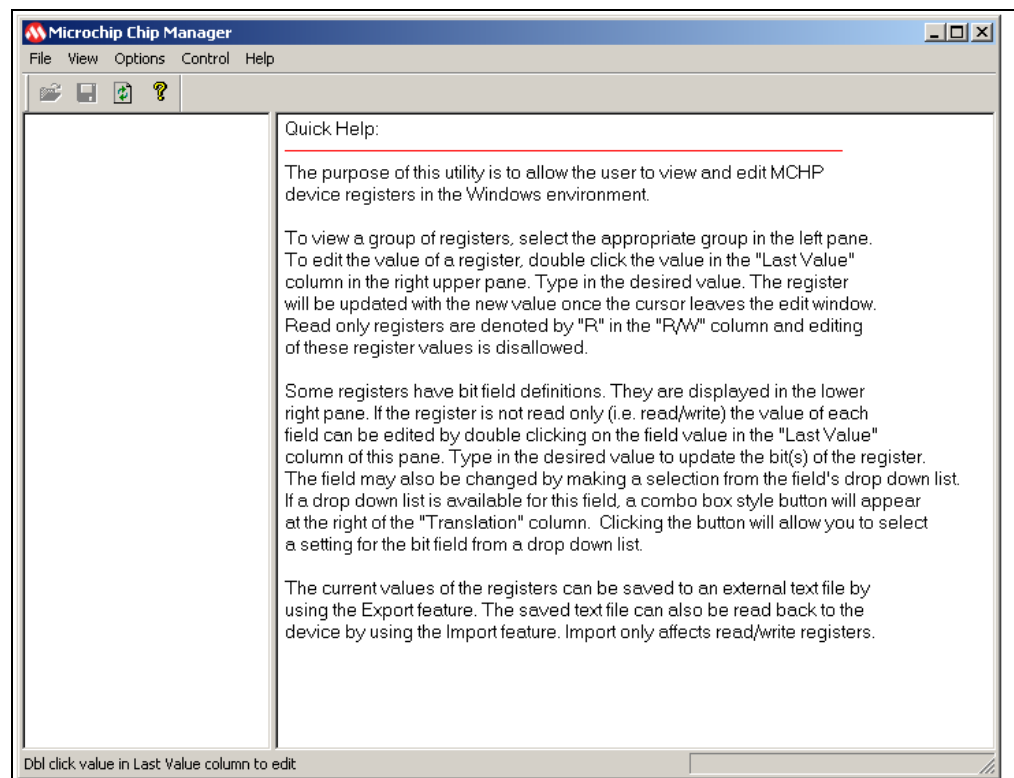

FIGURE 2-9: *Microchip Chip Manager – Quick Help Window.*
12. Start the software by either going to Windows Start button > All Programs > Microchip > Microchip Chip Manager or by clicking the software icon () on the desktop. The evaluation board software will initialize while the Microchip Chip Manager with the Quick Help screen appears (see Figure 2-9).